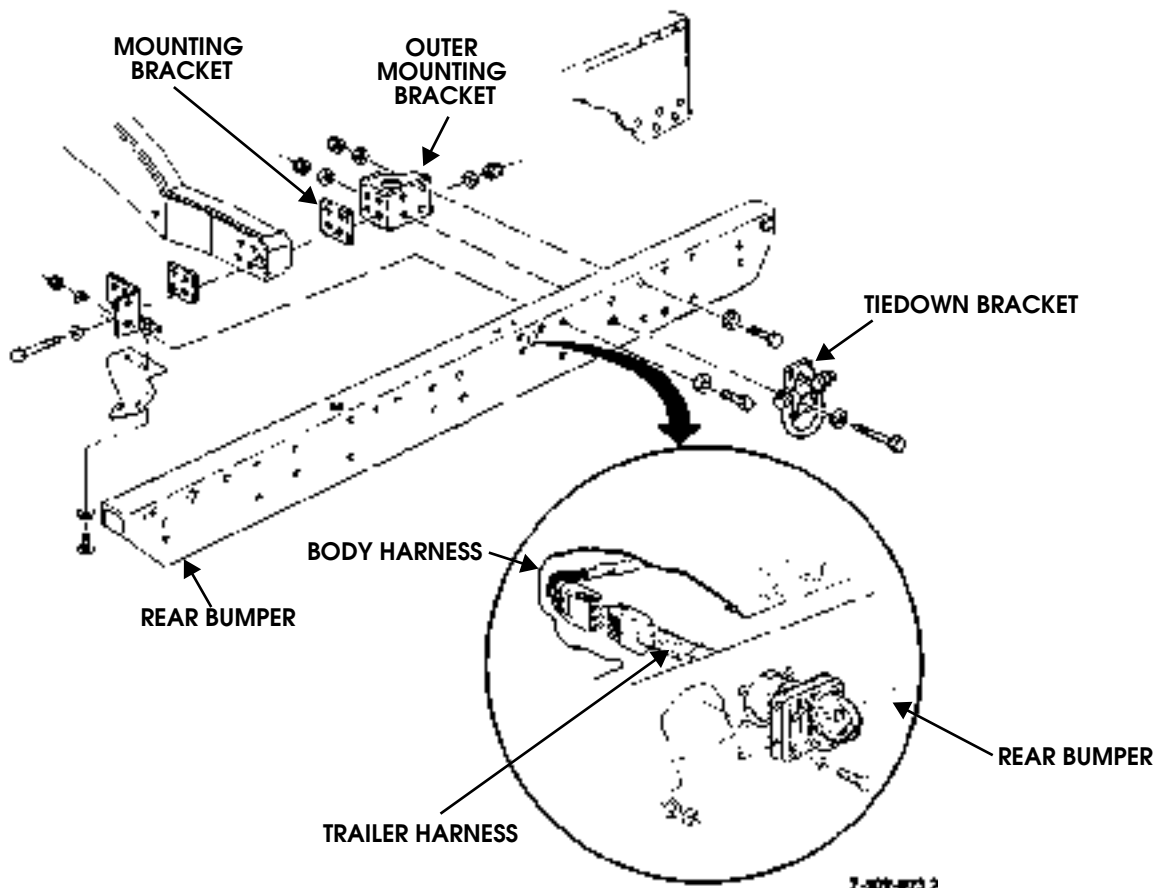

Figure 9-126: Rear Bumper Replacement
4. Remove two locknuts, washers, bolts, and washers securing trailer harness to rear bumper (Figure 9-126).
1. Install rear bumper on two mounting brackets and secure with eight washers and bolts. Do not tighten bolts (Figure 9-126).